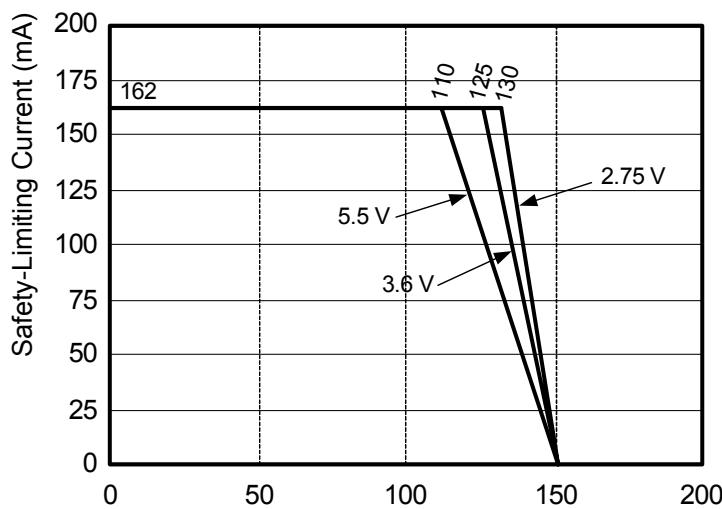

Figure 3. Thermal Derating Curve, Dependence of Safety Limiting Values with Case Temperature per DIN EN 60747-5-2
*Note: Maximum value allowed in the event of a failure; also see the thermal derating curve in Figure 3.